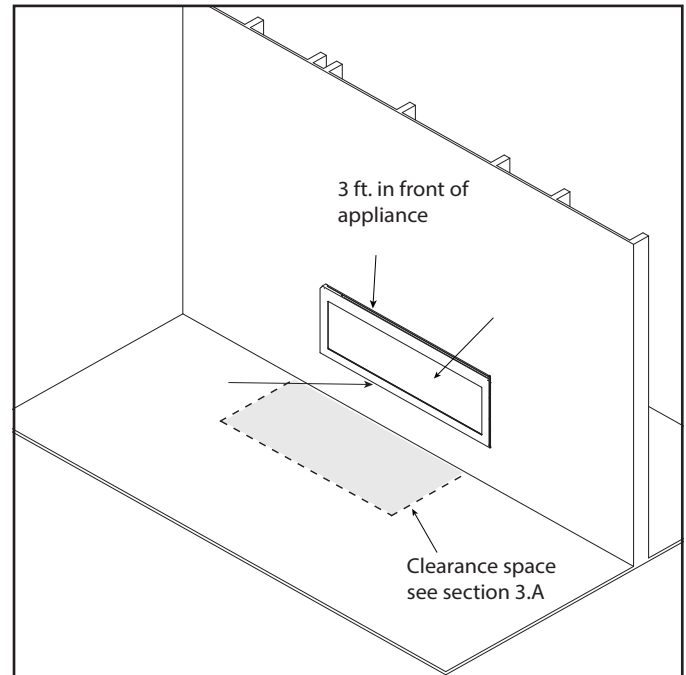

Figure 7.2 Clear Space Requirements
- DO NOT place combustible objects in front of the appliance. High temperatures could start a fire. See Figure 7.2. Avoid placing candles and other heat-sensitive objects on mantel or hearth. Heat could damage other objects.